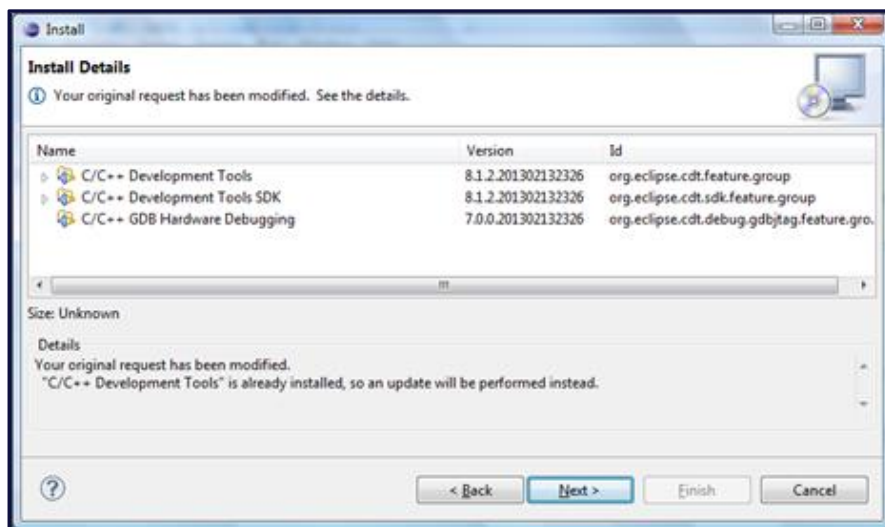

Figure 7: Completing installation
5. Proceed through the installation by clicking **Next** in the windows that follow (Figure 7).